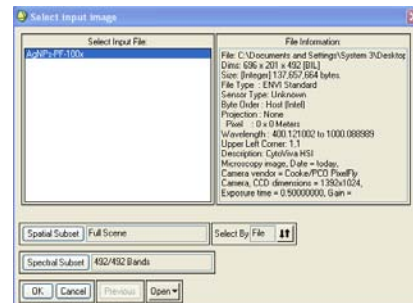

Figure 2. Select input image Box
2. In the Select input image dialog, use Open to browse for the HSI data cube that you wish to classify and enter it. If the image was already opened it will appear in the Select Input File list. For this example we will use AgNPs-PF-100x (See Figure 2).